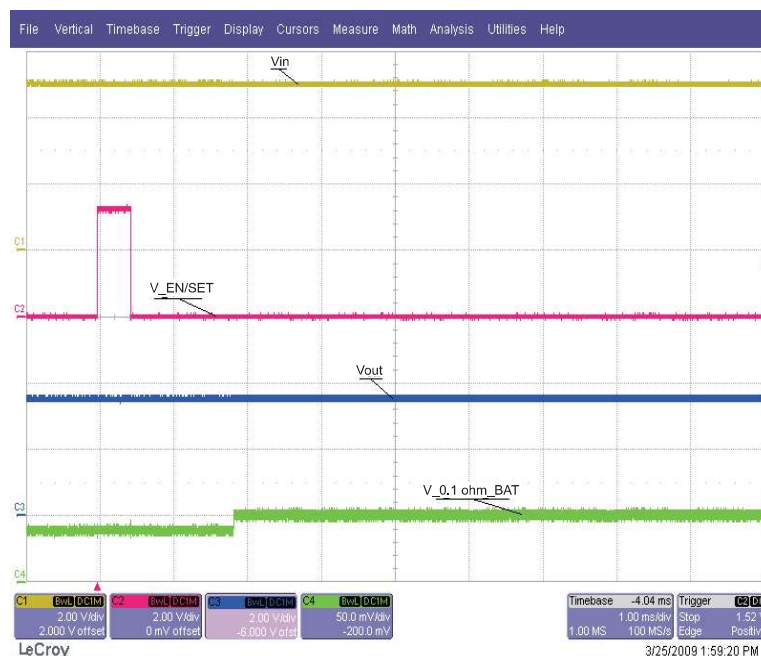

Figure 2. One-Pulse Programming Shows Change From USB500 to ISET Mode
5. Switch, S1, DOWN, then back UP. The scope captures one pulse on CH2 (Figure 2). The pulse must be less than 1.5-ms wide. If too wide, the potentiometer, R7, can adjust the pulse width.